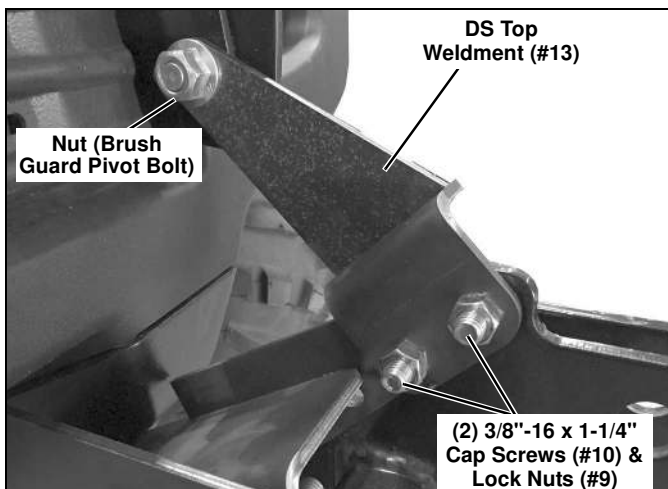

Figure 4
7. Loosely secure the PS Front Bracket (#2) and PS Top Bracket (#4) together with a (2) 3/8"-16 x 1-1/4" Cap Screws (#10) and (2) 3/8"-16 Lock Nuts (#9).
8. Loosely secure the DS (#5) and PS (#4) Top Brackets to the bottom of the Gator Front Cross Member with (2) 1/2"-13 x 3" Bolts (#7) and (2) 1/2"-13 Lock Nuts (#8) each.
9. On the Driver's Side, remove the nut from the brush guard pivot bolt. Slide the Driver's Side Top Weldment (#13) over the bolt and replace nut. (See Figure 4.)
10. Insert (2) 3/8"-16 x 1-1/4" Hex Head Cap Screws (#10) into the Driver's Side Front Bracket (#3) and into the Driver's Side Top Weldment (#13). Secure with (2) 3/8"-16 Lock Nuts (#9). (See Figure 4.)
11. Repeat Steps 10 and 11 on the Passenger's Side using the Passenger's Side Top Weldment (#14). (See Figure 4.)